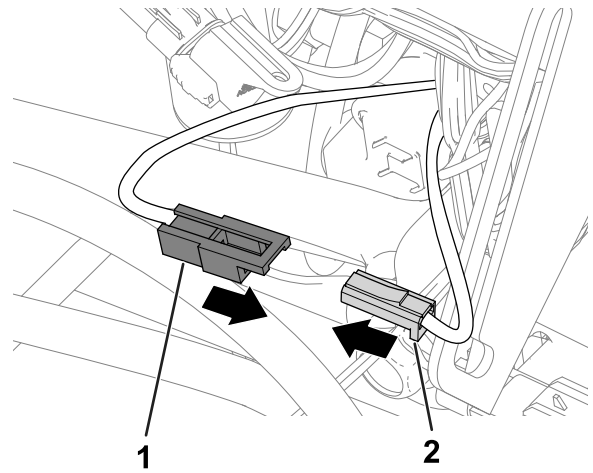

Figure 8
3. Install the power circuit by attaching the connectors for the machine fuse block and the kit fuse block (Figure 8).